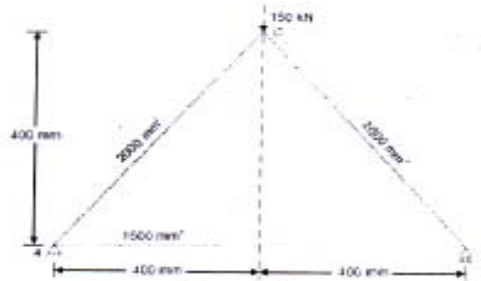

Figure 3
- b)** For the three - bar truss shown in fig. 3, determine the nodal displacements and the stress in each member. Find the support reactions also. Take modulus of elasticity as 200 Gpa . [9]